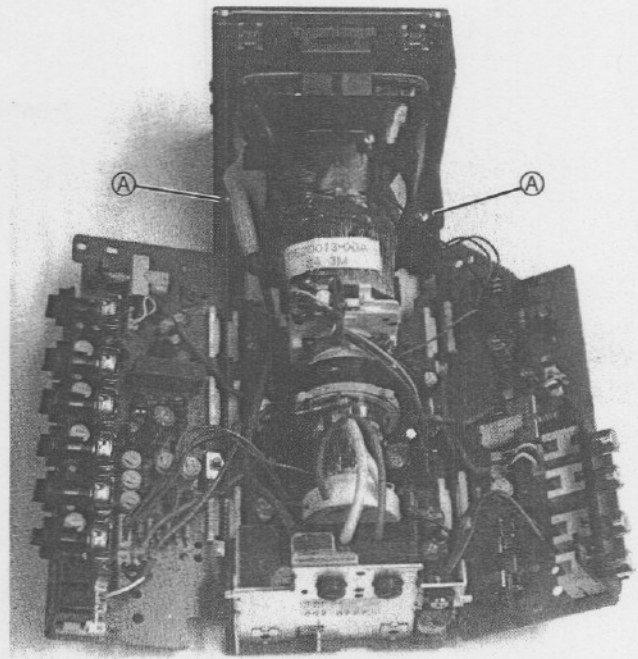

Figure 3-6. Remove screws to free CRT mount
1. Remove the two screws labelled A in Figure 3-6, and take off the plastic clamp housing.